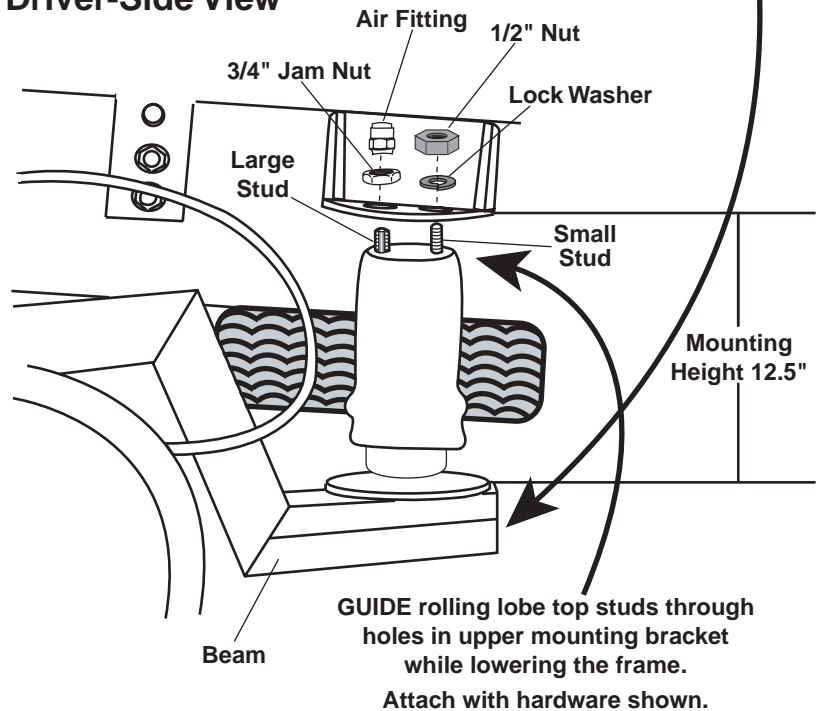

Figure 14
- Raise or lower the axle to create a space of 12.5 inches between the rolling lobe upper and lower mounting brackets (Figure 14). Measure the distances between the passenger and driver sides of the beam to the frame. Adjust the heim so both beam-to-frame distances are equal. You may have to use a pry bar between the beam and frame to adjust the heim.
Refer to Figure 14 for the following instructions.